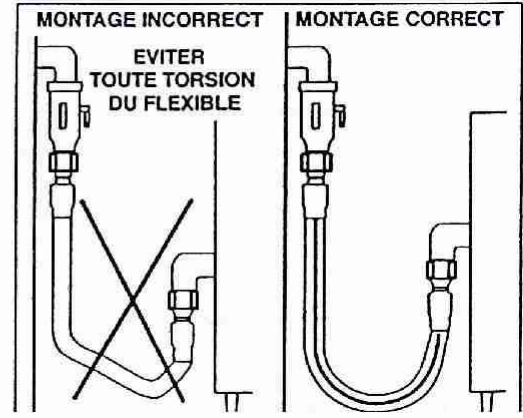

Figure 02
- Avoid excessive bends, vibrations and twists by ensuring the correct positioning of the marking line (*see fig. 02*).